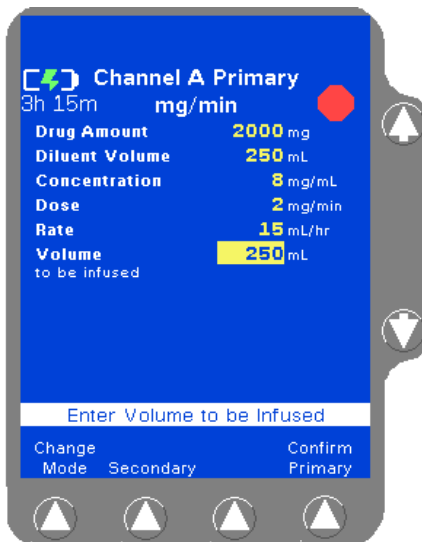

Figure 4-55 Enter Volume to be Infused
- Use the \downarrow key to highlight the **Volume to be infused** field (Figure 4-55).